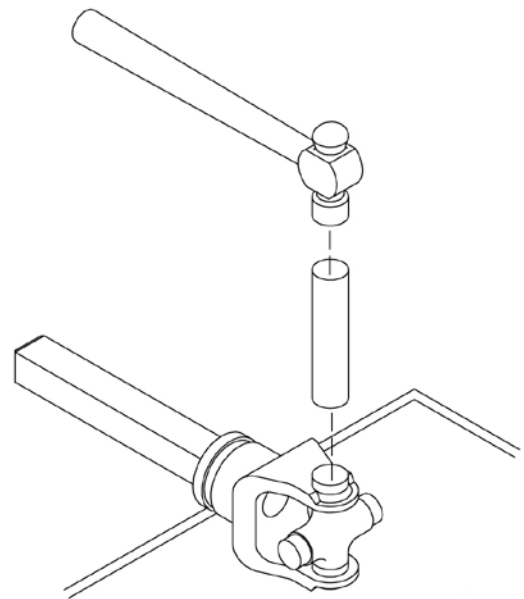

Figure 23. Install Cups
3. Seat cups by placing a drift or socket (slightly smaller than the cup) on cup and rap with a hammer. See Figure 23. Install snap ring and repeat on opposite cup